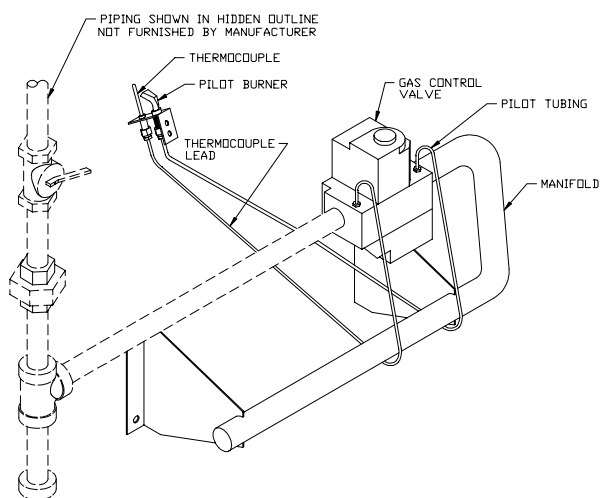

Figure 11: Pilot and Gas Piping, Continuous Ignition (Standing Pilot) (IN3 through IN9 Only)
H. Install Gas Valve on main gas burner assembly (if not factory assembled). See Figure 11, 12, 13, 14 or 15.